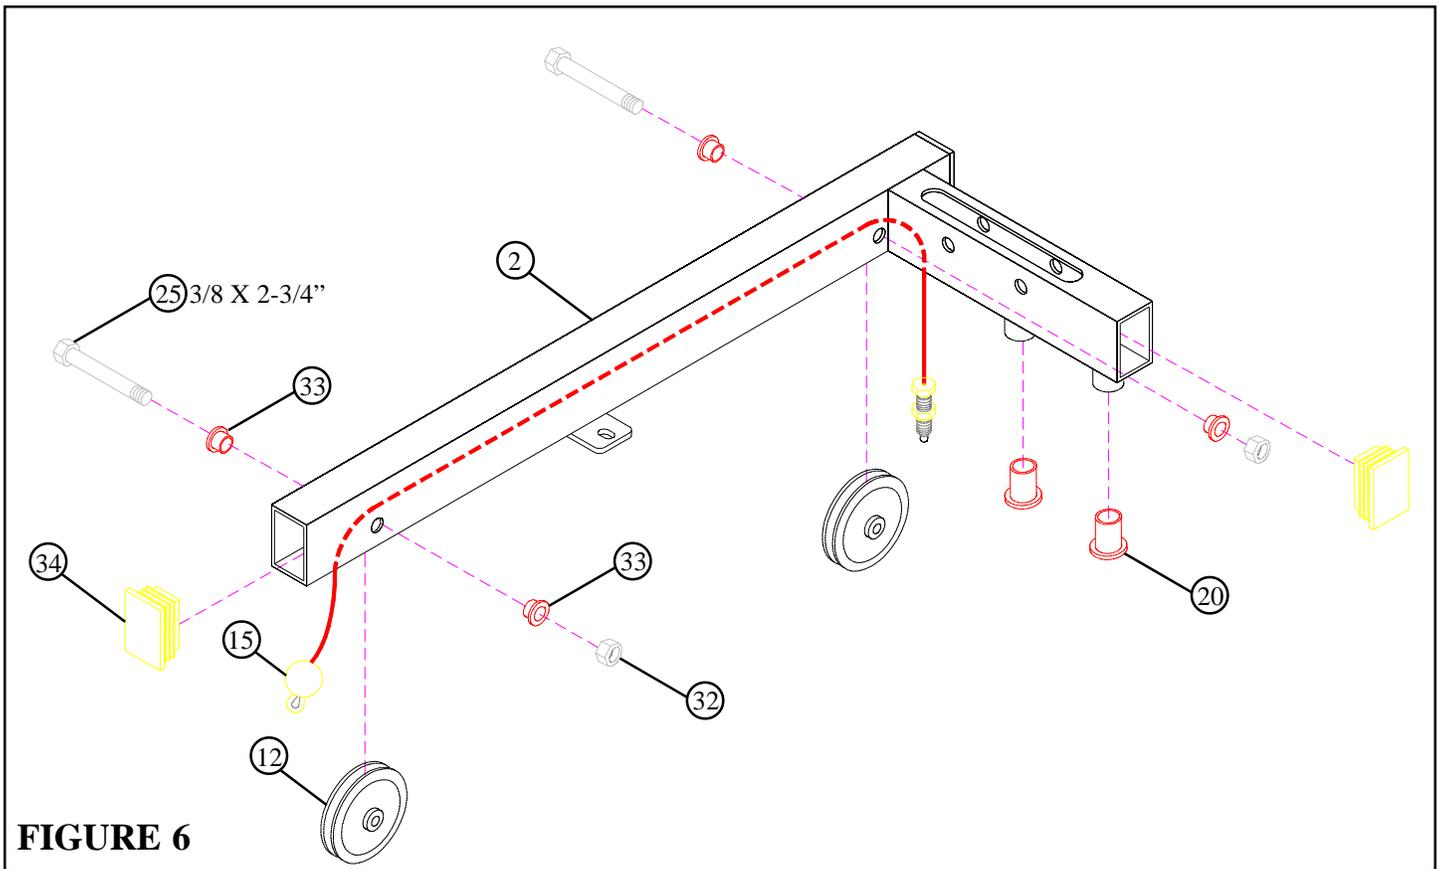

FIGURE 6
- Insert two 2 X 3" END CAPS (34) into the TOP BOOM (2) as shown in FIGURE 6.
- Route threaded end of the LAT CABLE (15) through the TOP BOOM (2) as shown in FIGURE 6.
- **SECURELY** assemble two 3-1/2" PULLEYS (12) to the TOP BOOM (2) using two 3/8 X 2-3/4" BOLTS (25), four 3/8" FLANGE SPACERS (33), and two 3/8" LOCK NUTS (32). See FIGURE 6. **(NOTE: BEFORE TIGHTENING, MAKE SURE CABLE (15) IS IN THE GROOVES OF THE PULLEYS.)**
- Insert two GUIDE ROD BUSHINGS (20) into the BUSHINGS of the TOP BOOM (2) as shown in FIGURE 6.